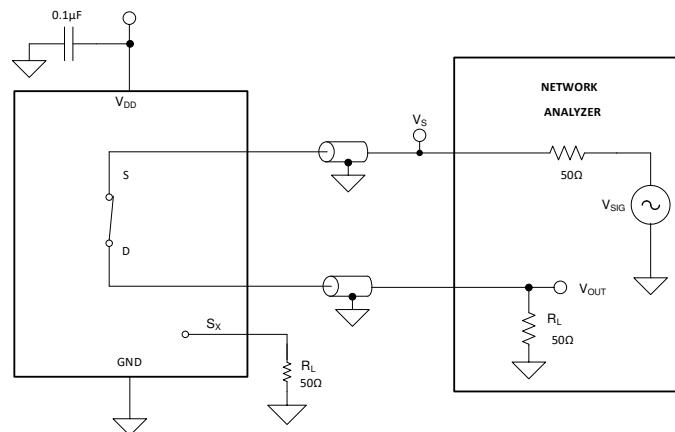

图 6-10. Bandwidth Measurement Setup
Bandwidth is defined as the range of frequencies that are attenuated by less than 3dB when the input is applied to the source pin (Sx) of an on-channel, and the output is measured at the drain pin (D) of the device. 图 6-10 shows the setup used to measure bandwidth.